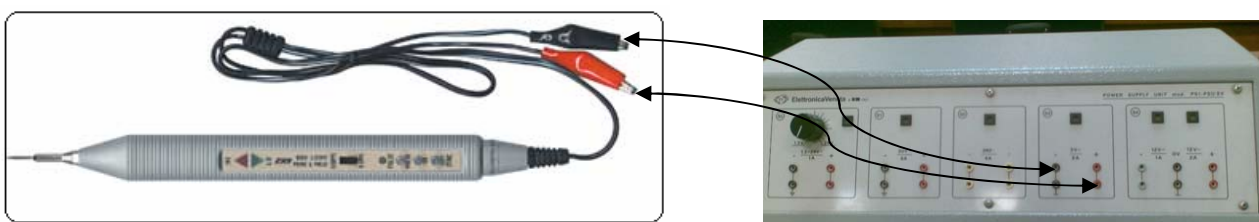

Figure 5
5. You can determine the output using the logic probe, logic probe as shown in (Figure5) is a hand-held pen-like probe used for analyzing and troubleshooting the logical states (Boolean 0 or 1) of a digital circuit. It can be used on either TTL or CMOS integrated circuit devices.